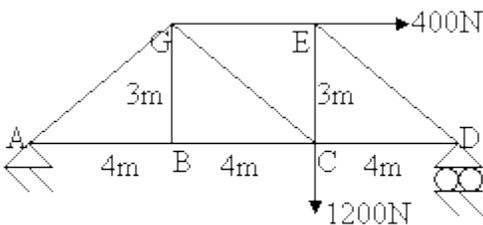

Fig 3
- Q.3** a. Using the method of sections, determine the forces in the members BC and GC of the bridge truss shown in Fig.3.